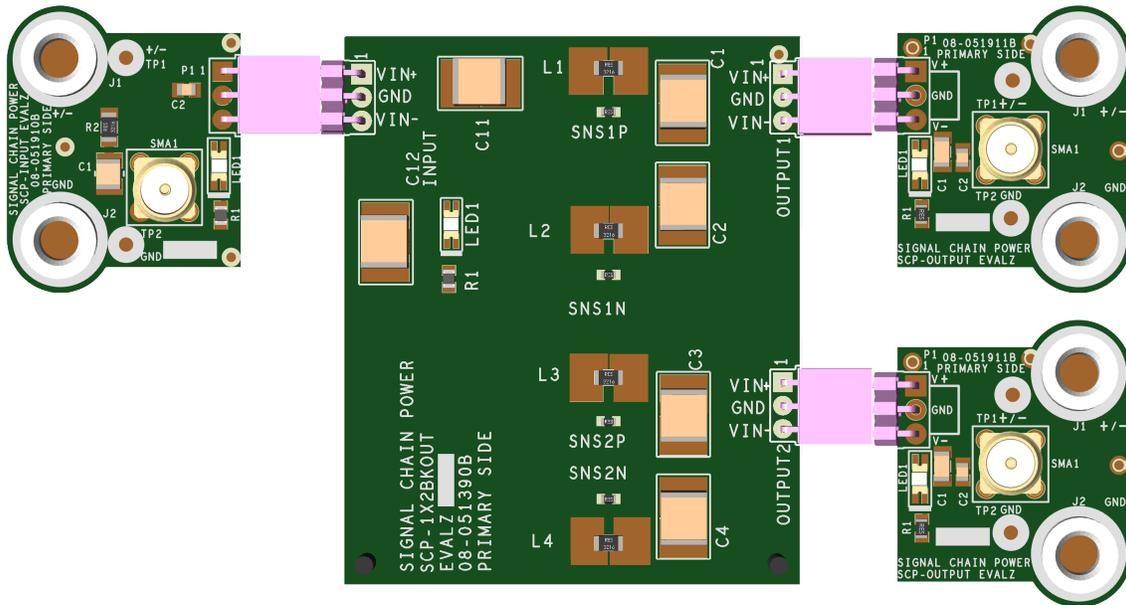

Figure 2. Proper Measurement Equipment Setup (Use SMA connectors for Measuring Input or Output Ripple)
2. Connect the SCP-INPUT-EVALZ and SCP-OUTPUT-EVALZ boards to the SCP board under evaluation (refer to Figure 2) and connect the input board to a voltage source, V_{SOURCE} . Connect the output board to a voltmeter or dynamic load. Slowly raise the input voltage until the SCP-1X2BKOUT-EVALZ powers up the device under test into regulation and sweep V_{SOURCE} through the desired range of operation.